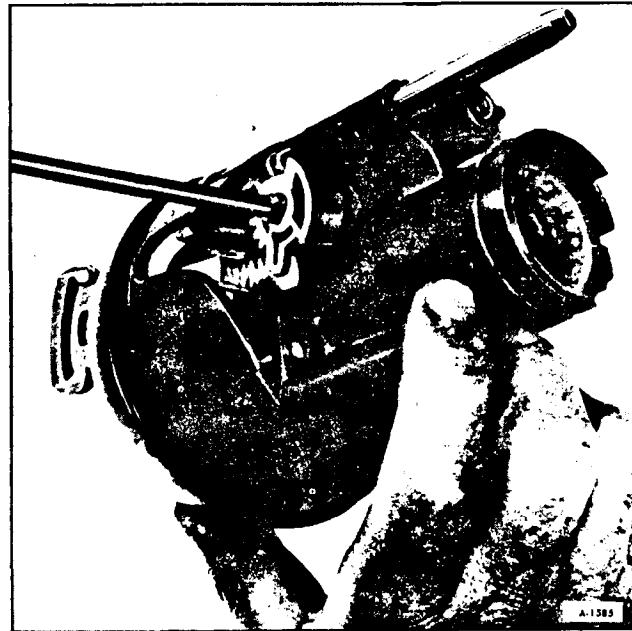

Figure 103—Removing Drive Shaft
30. If there is a snap ring, remove it from sector drive shaft. With small punch lightly tap drive shaft from sector (figure 103). Remove drive shaft. Remove rack and rack spring (also shim, if there is one). Remove sector and bolt.